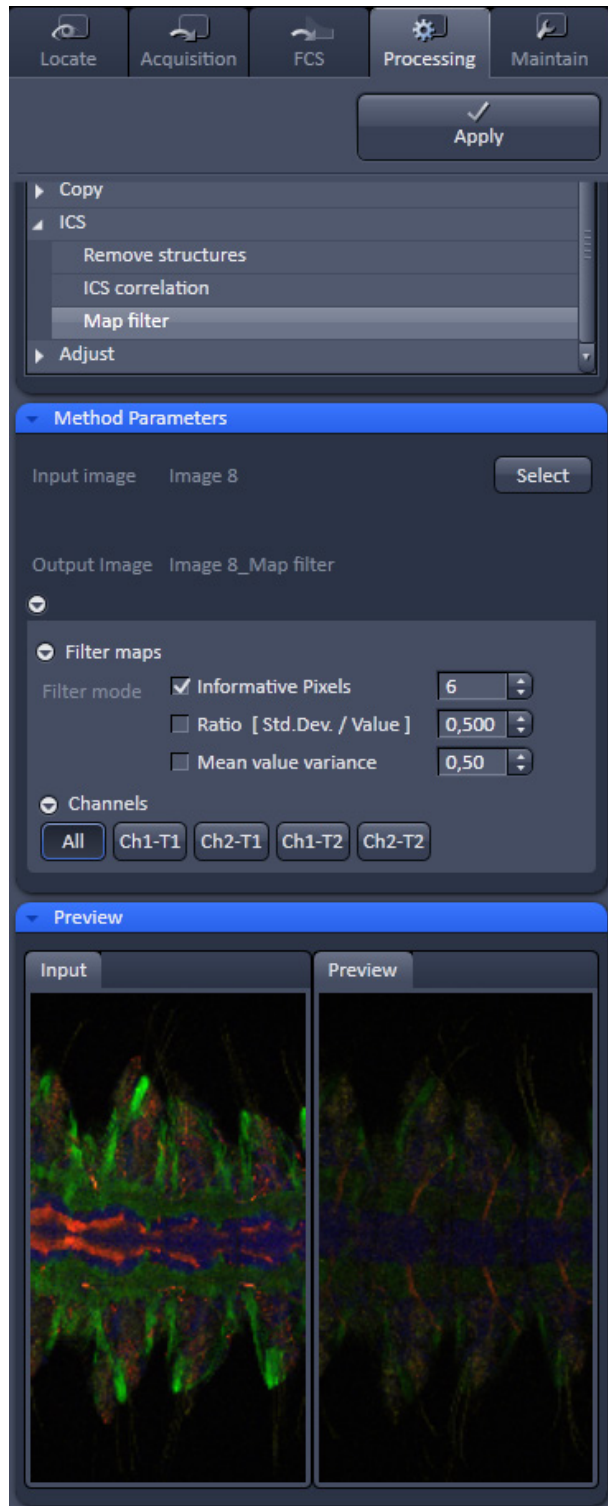

Fig. 424 Processing – ICS Map filter
- Activate **Map filter** in the **ICS** tool. The **Map filter** menu will appear (Fig. 424)